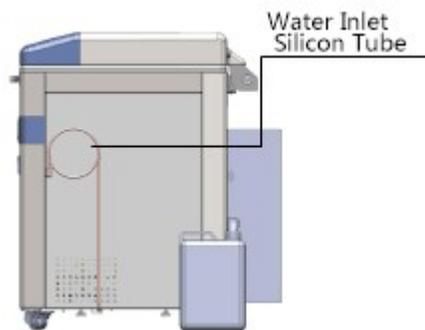

Fig 1
- Hang the external cooling water tank rack on the rear vertical plate stud and place the 2L waste water tank in the rack, then put the exhaust silica gel tube into the 2L waste water tank ( Fig 1)
Check there is enough water for sterilization, if no, you need to add water in. Place a distilled water tank in front of the instrument (recommended tank volume is 30L). Make sure that the water in the tank is full before each sterilization. Make sure that the water inlet tube (as shown in Fig 1) is placed in the tank.